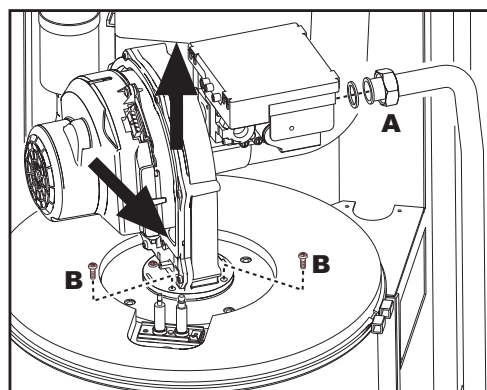
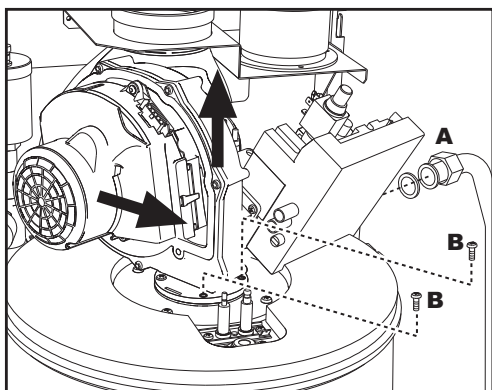

fig. 29 - model ENERGY TOP W 70 - W 80
fig. 30 - model ENERGY TOP W 125
4. Unscrew the gas valve ( e ) fixing ring fig. 29 "A" fig. 30.
5. Undo the two fixing screws "B" and remove the fan assembly as indicated in fig. 29 for the model ENERGY TOP W 70 - W 80 and in fig. 30 for the model ENERGY TOP W 125.